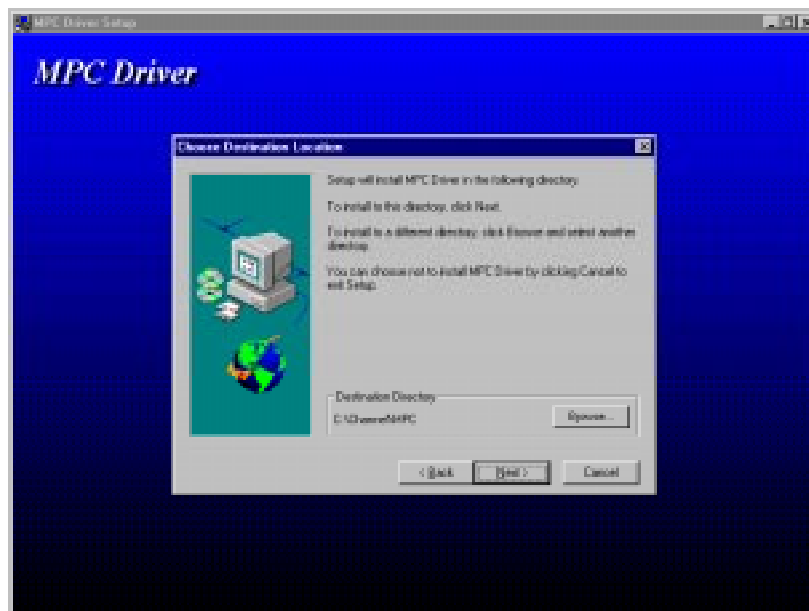
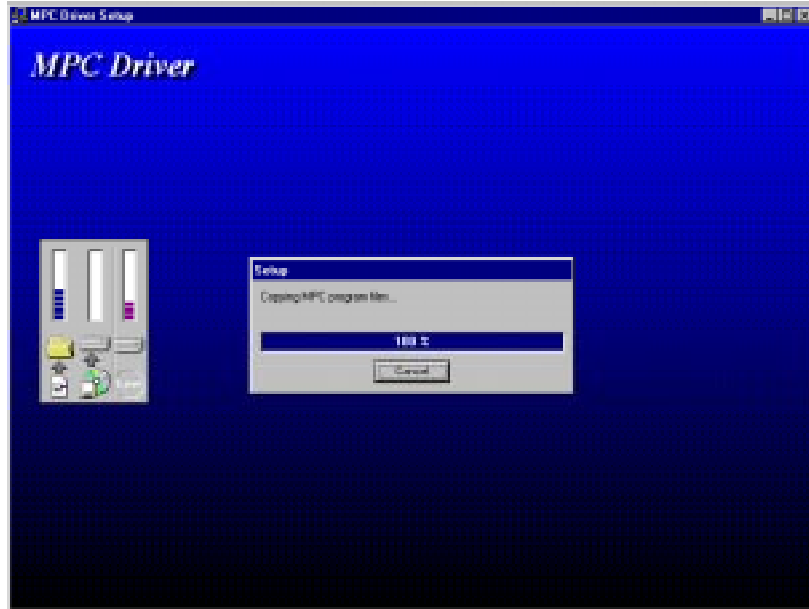

Figure 5-4. Choose Destination Location
Figure 5-5. Installation Progress
- The Choose Destination Location dialog box will display showing the target installation directory (Figure 5-4). Unless you have a specific reason for changing the directory you should allow it to default to “C:\CHANNEL\MPC”. Click **N**ext to continue the install. Progress bars will display while the MPC+ driver is copied to the Netfinity’s hard drive (Figure 5-5).